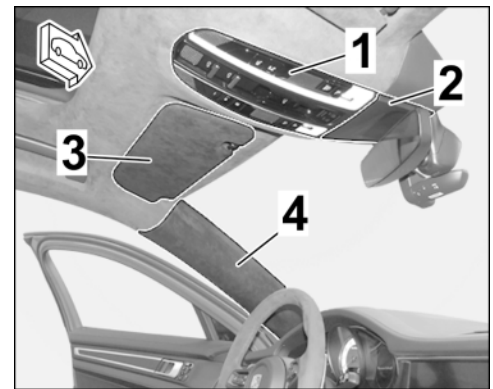

Figure 4
1.2 Front roof/rear-view mirror area (interior \Rightarrow *Figure 4*)
Remove (front) roof console and cover on antenna (\Rightarrow *Figure 4 -1 and 2-*). \Rightarrow *Workshop Manual '708319 Removing and installing front roof console'*